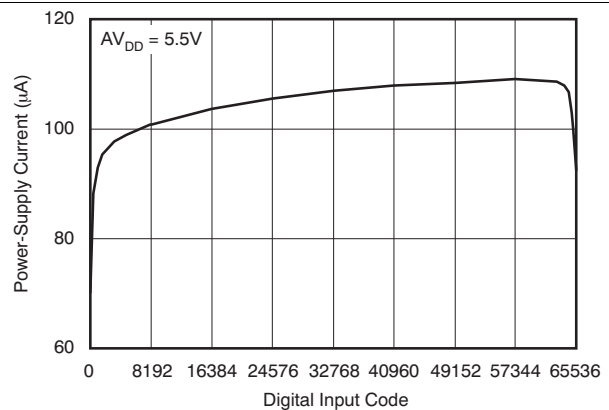

Figure 14. Power-Supply Current vs Digital Input Code
(6) For more details, see Figure 14 and Figure 55.